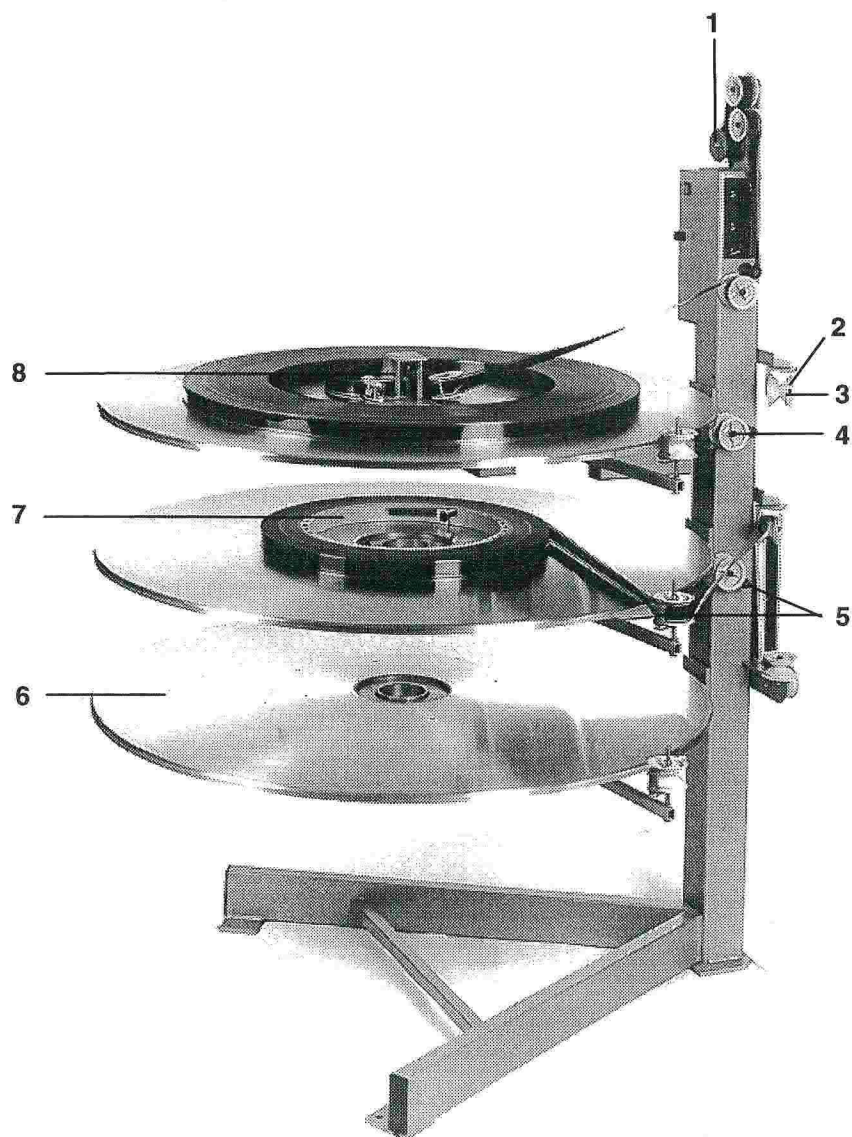

Figure 7-1
- The parts in the list are positioned with a number. You will find these numbers in figures 7-1, 7-2, 7-3, 7-5, 7-7 and 7-8.